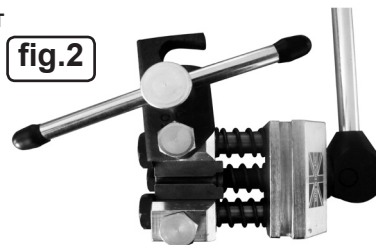

fig.2
- 3.4. Consult Chart 1 and select the punch holder containing the punches and the die specified to produce the required flare. Place the die into the cavity as shown with the split line horizontal and the counterbore towards the operating lever (Fig.2).